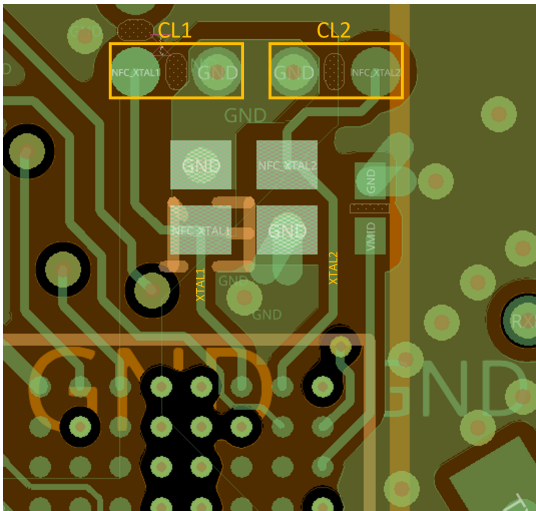

Figure 40. XTAL PCB layout example
- PCB layout (see an example in Figure 40):
Find an example of PCB layout in Figure 40.